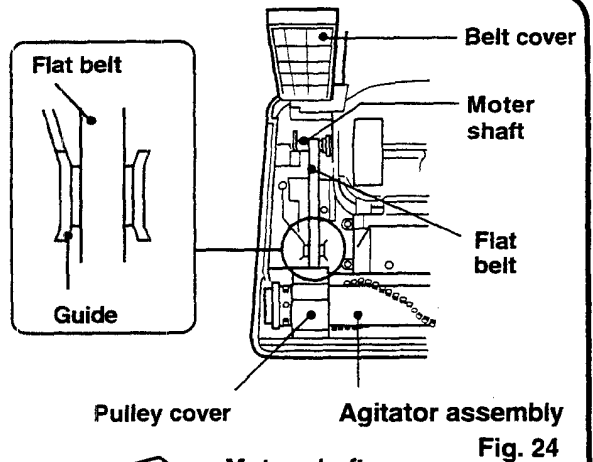

Fig. 24
- 1** After removing the bottom plate, lift up the belt cover and remove the pulley cover to determine if the belt is worn or broken. (Fig. 24)
Be sure to install the new flat belt into the guide properly. (Fig. 24)